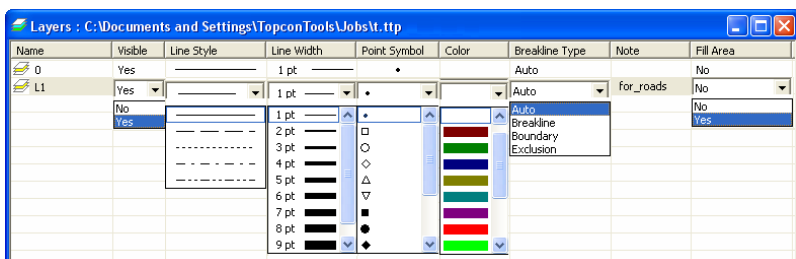

Figure 5-61. Editing Layer in the Layer View
- Highlight and click any (except *Name*) cell in the *Layers* view, select and edit the desired parameters (Figure 5-61 on page 5-42).